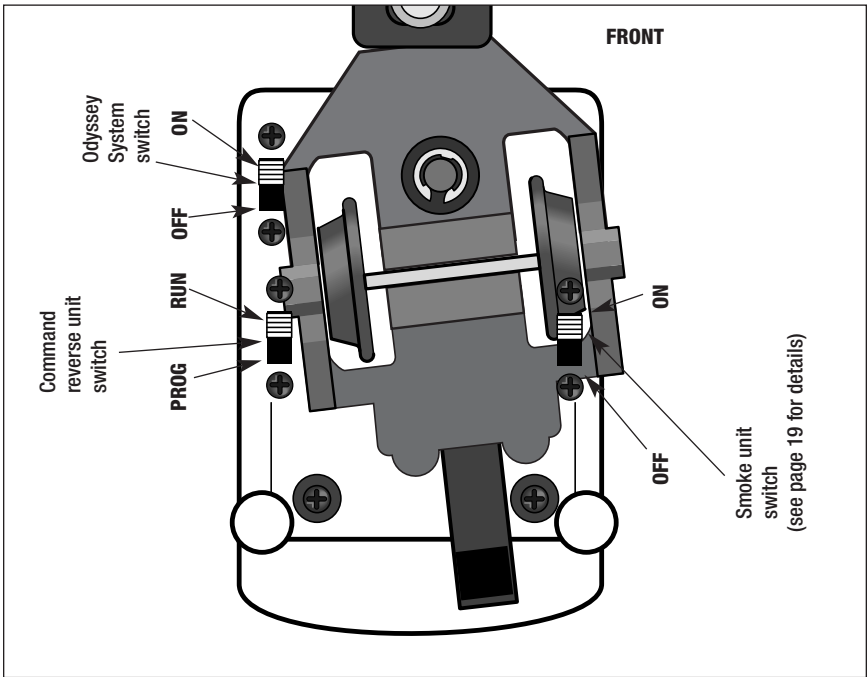

Figure 2. Switch locations
Get your locomotive moving in the desired direction, then *slow it down without stopping*. Set the Command reverse unit switch to PROG. Refer to Figure 2 for
**T**he Odyssey System is automatically operational when you operate your locomotive in conventional (non-Command Control) mode, as long as the Odyssey switch is in the ON position (see Figure 2 on page 5). This means that your locomotive will maintain a constant speed, compensating for grades, loads, and turns. Simply use your transformer’s throttle to adjust the speed of your locomotive. If you would like to deactivate the speed control feature, slide the Odyssey switch to the OFF position while the locomotive is not in motion.
Use your CAB-1 to turn the Odyssey System speed control on or off. The classification lights will flash twice after each sequence has been entered. **The position of the Odyssey switch (see Figure 2 on page 5) is the Odyssey System default setting when you**